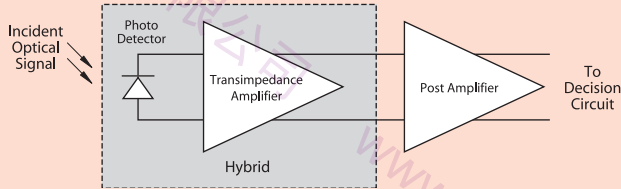

Figure 2.1. Optical Receiver. Functional Block Diagram.
As it is shown on **Figure 2.1**, optical receiver in digital communication system typically contains of Photo Detector, Transimpedance Amplifier (TIA), and Post Amplifier then followed by decision circuit. Photo Detector (PD), typically PIN or Avalanche Photo Diode (APD), produces photocurrent proportional to the incident optical power. Transimpedance amplifier converts this current into voltage signal and then Post Amplifier bring this voltage to some standard level, so Post Amplifier output signal can be used by decision circuit.